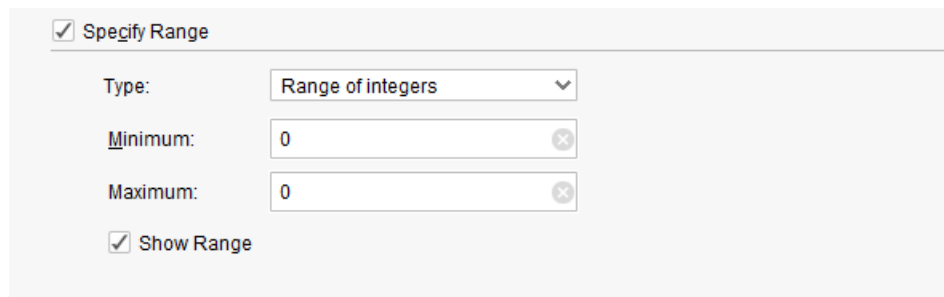

Figure 4-20: Range of Integers Restriction
- **Pairs:** Limits the value choices for the parameter from a predefined list similar to the list of values restriction; however, you can show the selections in the IP Customization GUI in a different format. A Key/Value pair list controls the value of the parameter (Figure 4-20).